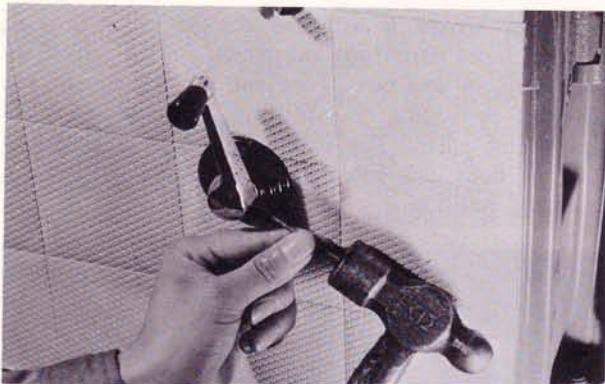

Fig. 14-5 Removing regular handle
2. Remove the inside door handle and the window regulator handle by pressing in the escutcheon and removing the holding pin as shown in Fig. 14-5.